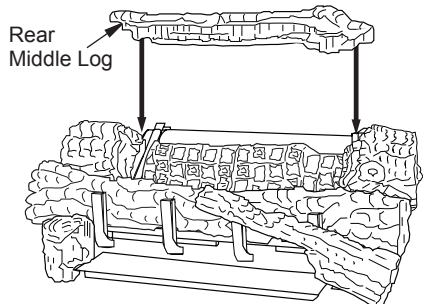

Figure 40 - Installing Rear Middle Log
- The rear middle log should fit between the ramp log and the rear burner. The left and right middle logs have recessed areas for the rear middle log to sit into (See Figure 40). Be careful not to push the rear burner out of position while installing this log.